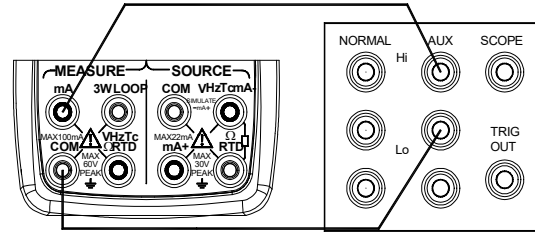

Figure 17 Calibrating DC current 50mA
**Step 3:** Connect the lead cables to the output terminals of the standard source as shown in Figure 17.